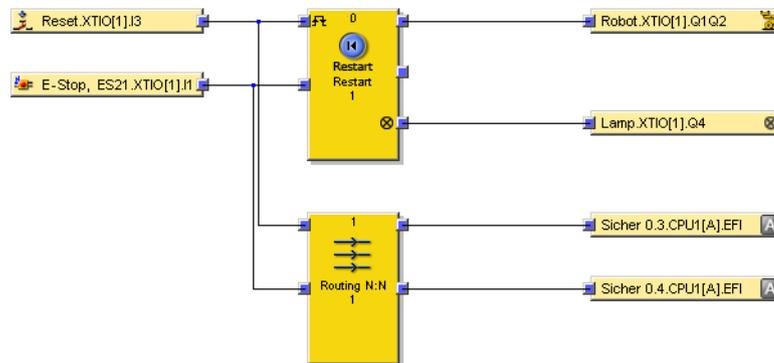

Figure 332: Logic example for Flexi Link routing
- ▶ Connect the outputs of the **Routing n:n** function block to the two CPU1[A] outputs (e.g., **Safe 0.3.CPU1[A].EFI1** and **Safe 0.4.CPU1[A].EFI1**, see figure 332, page 460).